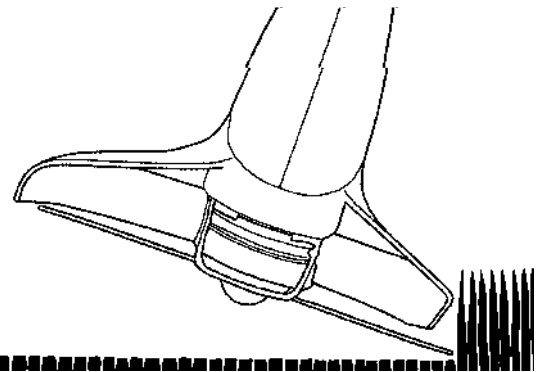

Fig. 12
4. **CLOSER TRIMMING** (Fig. 12). Position trimmer straight ahead with a slight tilt so bottom of stringhead is above ground level and string contact occurs at proper cutting point. Always cut away from operator. Do not pull trimmer in toward operator.
7. **SCALPING** (Fig. 12). Scalping refers to removal of all vegetation down to the ground. To do this, tilt the stringhead to about a 30 degree angle to the left. By adjusting the handle you will have better control during this operation. Always keep a distance of 50 feet (15 meters) from other people and animals when scalping. Do not attempt this procedure if there is any chance flying debris could injure operator, other people or cause damage to property.